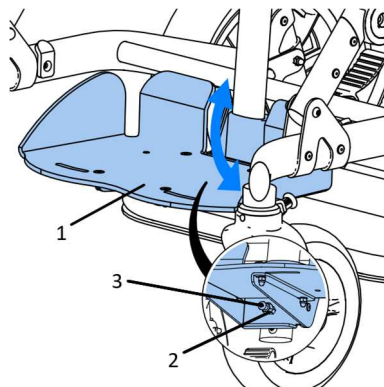

Fig. 24
In order to fit Fig. 24 limiting the angle of inclination of the footrest platform (1) in relation to the guide profile, unscrew the nut (2) with a 10 mm wrench, and then adjust the inclination of the platform by unscrewing or unscrewing the screw (3) using an H4 wrench. After each adjustment of the platform angle, press the platform to check whether the angle is set correctly. After adjustment, tighten the nut (2).